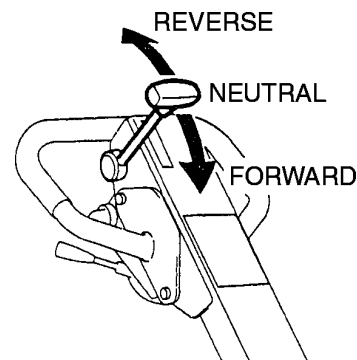

Figure 17. Travel Lever
- To make the compactor move in the forward direction push the travel lever (Figure 17) forward
- To make the compactor move in the reverse direction pull the travel lever (Figure 17) backwards.